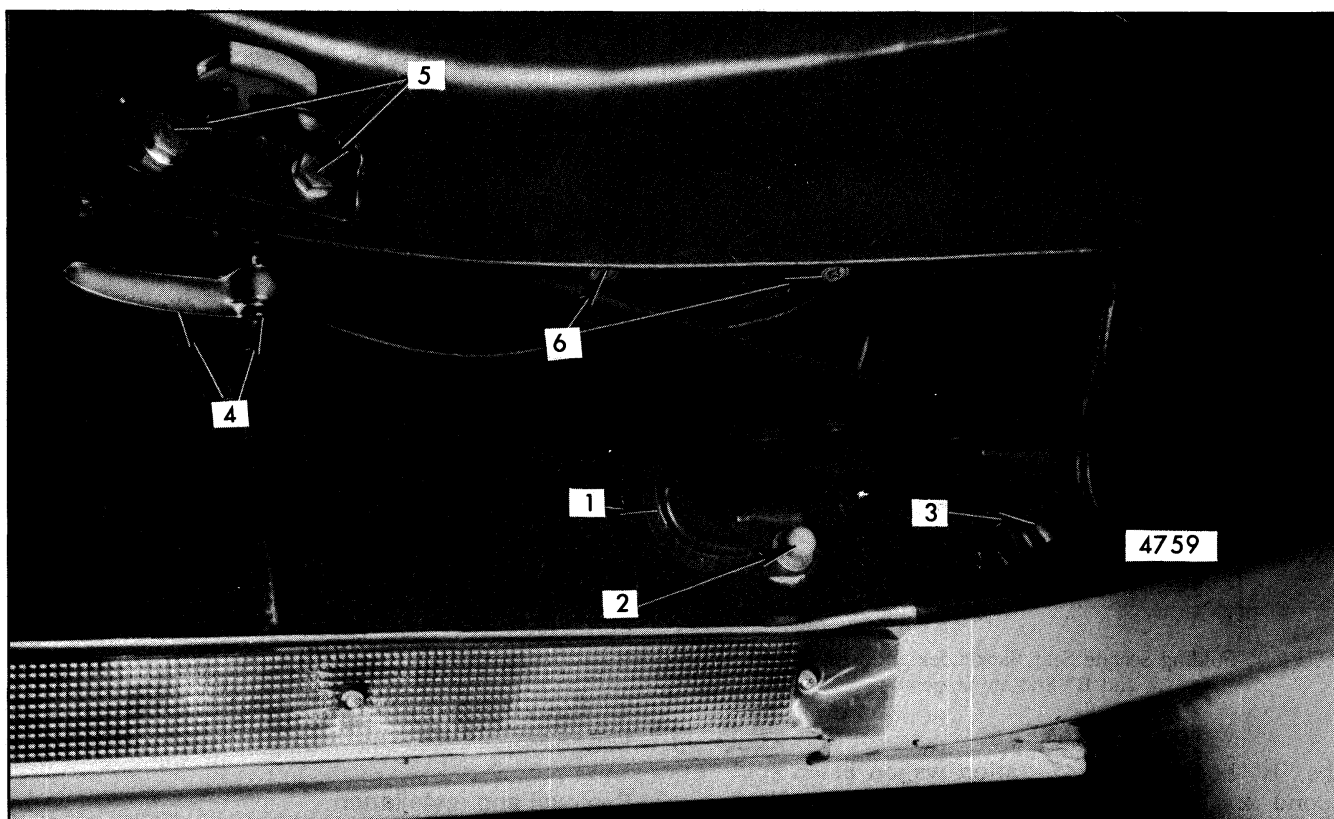
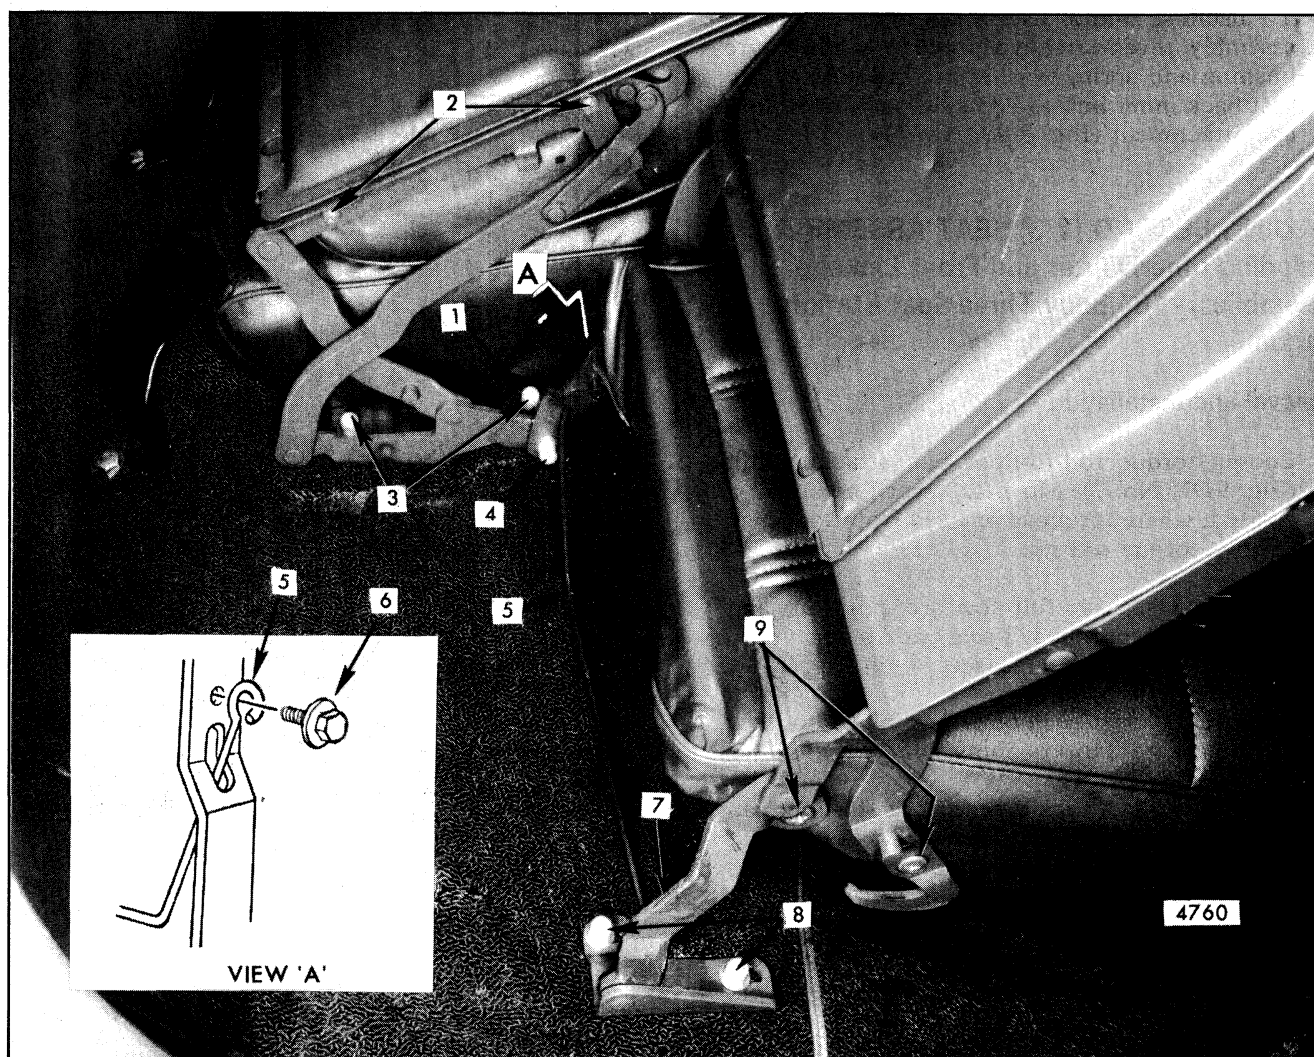
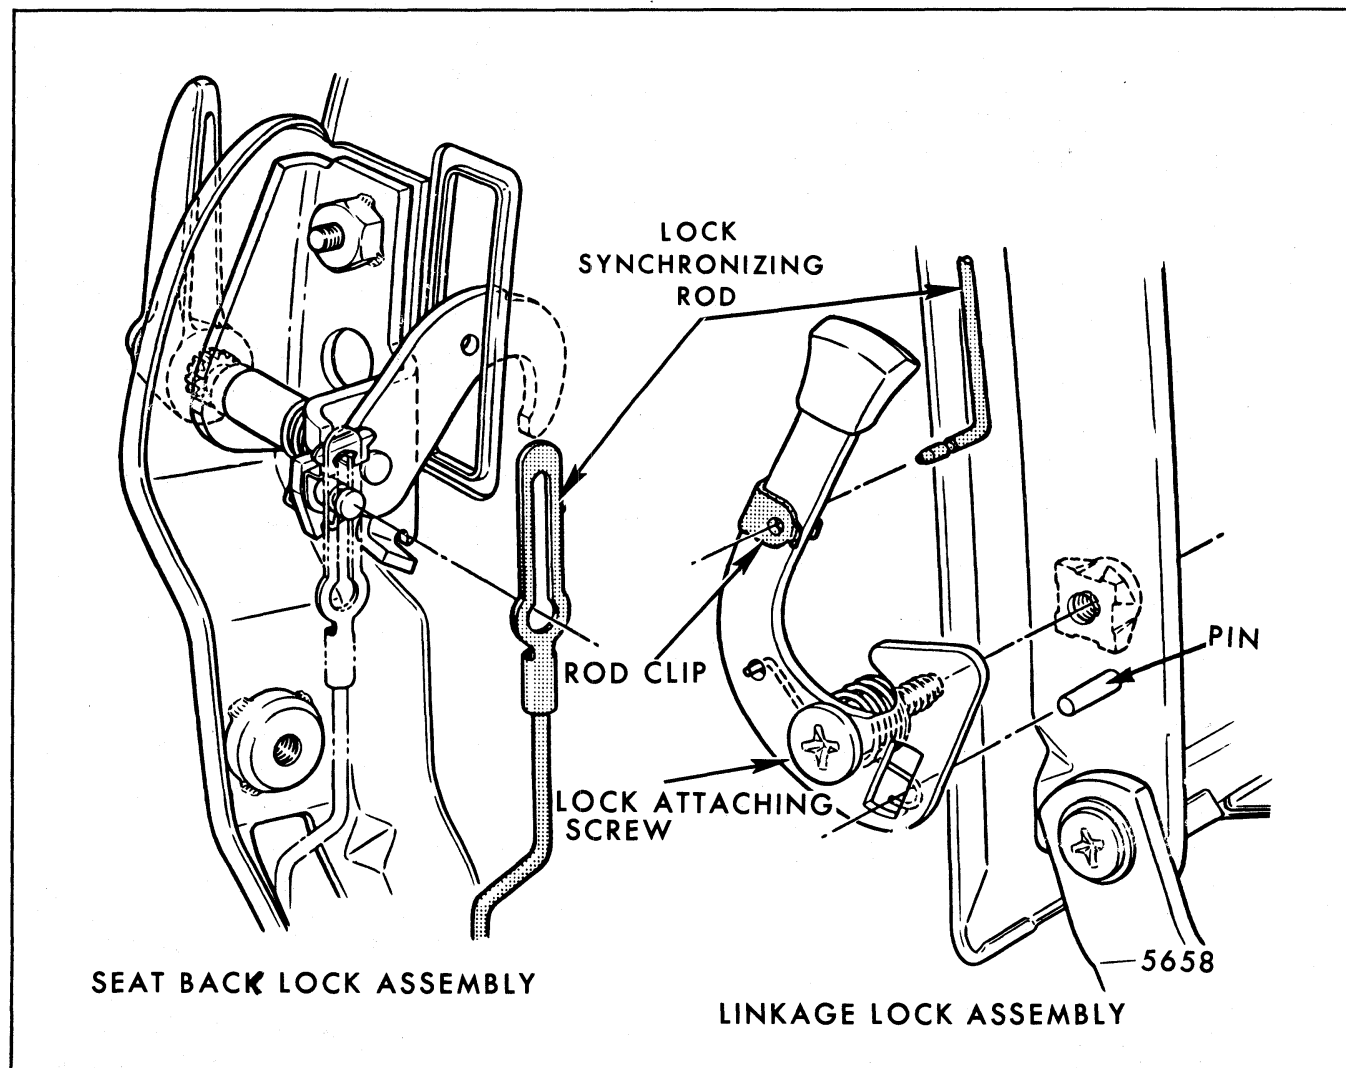

Fig. 9-96-Folding Second 2/3 Seat Back Outer Linkage and Seat Back Lock - "B" Body Three-Seat Station Wagon Shown (Two-Seat Station Wagon Typical)
Fig. 9-97-Folding Second 2/3 Seat Back Inner Linkage and 1/3 Seat Back Outer Linkage - "B" Body Three-Seat Station Wagon
Fig. 9-99-Second 1/3 Seat Back Lock and Linkage Lock - "B" Body Three-Seat Station Wagons
To remove the second seat cushion on two seat styles or the second 2/3 seat cushion on three seat styles, remove both the right and left side seat linkage-to-floor pan front bolt (see Figs. 9-96 and 9-97); then lift cushion upward to disengage cushion retainers from floor pan studs, and remove cushion. To install, reverse removal procedure.
To remove the right side second seat cushion (1/3 seat) on three-seat station wagon styles, place the seat assembly in the forward position. From under both rear and front of seat cushion remove bolts securing cushion assembly to inner and outer rear linkage (see Figs. 9-97 and 9-98) and to front linkage; then remove cushion assembly.
2. At both right and left side of seat back, remove linkage to seat back panel attaching screws (Fig. 9-96, Item 6 and Fig. 9-97, Item 2) and remove
ing screws (Figs. 9-96 and 9-97) and remove linkage assembly.
2. Loosen 1/3 seat torque rod-to-floor pan attaching nut (see Fig. 9-97, No. 7). Move 1/3 seat
3. Remove 1/3 seat back inner link-to-2/3 seat back inner link attaching nut (see "4" in Fig. 9-97).
4. Remove 2/3 seat back inner linkage-to-floor pan attaching bolts or nuts (see "3" in Fig. 9-97).
5. Remove 2/3 seat back outer linkage-to-floor pan attaching bolts or nuts (see "2" and "3" in Fig. 9-96); then remove second 2/3 seat assembly including linkages from body.
7. To install second 2/3 seat back or inner linkage assembly, reverse removal procedure. Make sure bushing and spring washer are installed at 1/3 seat back inner link-to-2/3 seat back inner linkage attachment (Fig. 9-97, No. 4).
1. Loosen torque rod-to-floor pan attaching nut (Fig. 9-97, No. 7). Move 1/3 seat forward to a position where torque is relieved from rod; then remove torque rod nut.
2. Move 1/3 seat to full forward position, and remove nut securing 1/3 seat back inner link to 2/3 seat back inner link (see "4" in Fig. 9-97).
Linkage assemblies may be removed from 1/3 seat as required. Refer to Figures 9-97 and 9-98 for 1/3 seat linkage attachments.
5. To install 1/3 seat assembly, reverse removal procedure. Make sure that bushing and spring washer is installed at 1/3 seat back inner link-to-2/3 seat back inner link (see Fig. 9-97, No. 4).
1. Fold right 1/3 seat back to a position where seat back outer linkage-to-seat back screws, indicated in Figures 9-97 and 9-98, are accessible; then remove screws.
Removal and Installation - See Fig. 9-99
1. Seat Back Lock Assembly - place seat back out of locked position and remove lock control handle. On rear side of seat back panel, remove two screws securing lock assembly (see "5" in Fig. 9-96); then disengage lock from eyelet end of synchronizing rod (see Fig. 9-99) and remove lock assembly. To install, reverse removal procedure.
2. Linkage Lock Assembly - unlock linkage lock and place seat back in a position where lock attaching screw (Fig. 9-99) is accessible; then remove lock attaching screw. Move lock from seat back panel sufficiently to disengage syn-
3. Lock Synchronizing Rod - unlock linkage lock and place seat back in a position where rod can be disengaged from retaining clip on linkage lock (Fig. 9-99). When rod is detached from linkage lock, disengage from seat back lock (see Fig. 9-99). To install, reverse removal procedure.